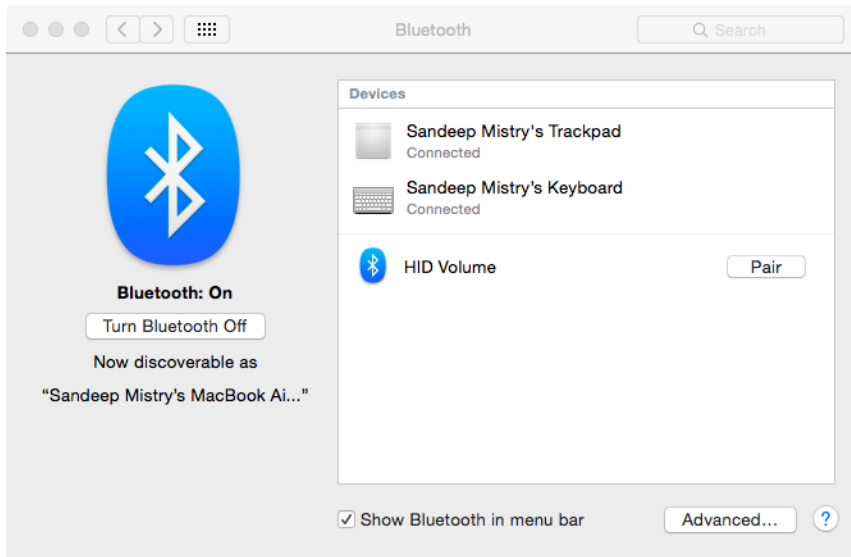

Figure A-8 OS X Bluetooth Settings
2. Go to Bluetooth (Figure A-8).